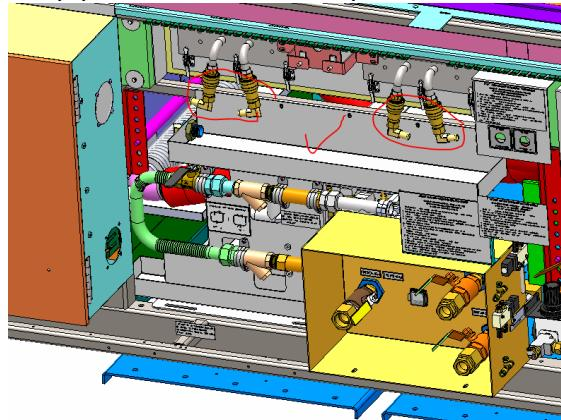

Fig 18
16. Reinstall back Drip pan for flat coil and quick connector (see Fig 18)